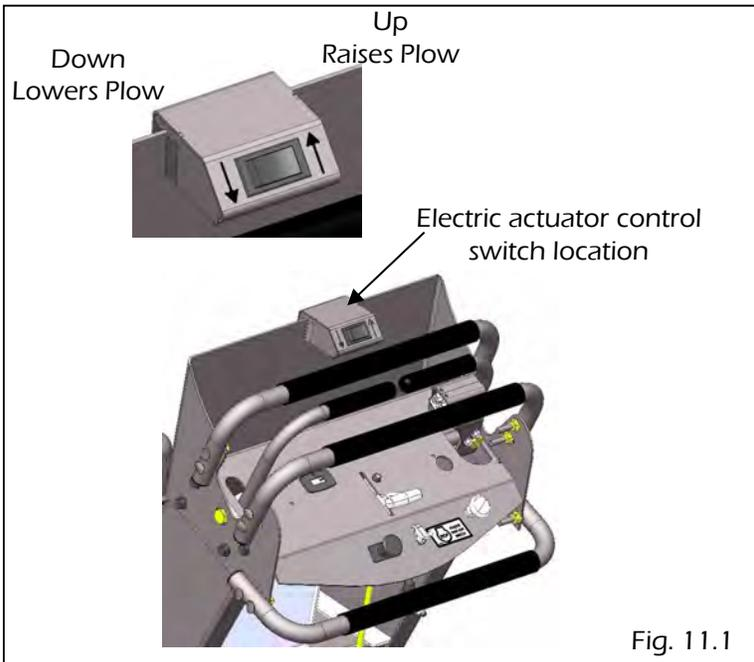

Fig. 11.1
- The control switch for the electric actuator should be placed on the front hand guard (console) of the tractor steering controls. (Fig. 11.1)